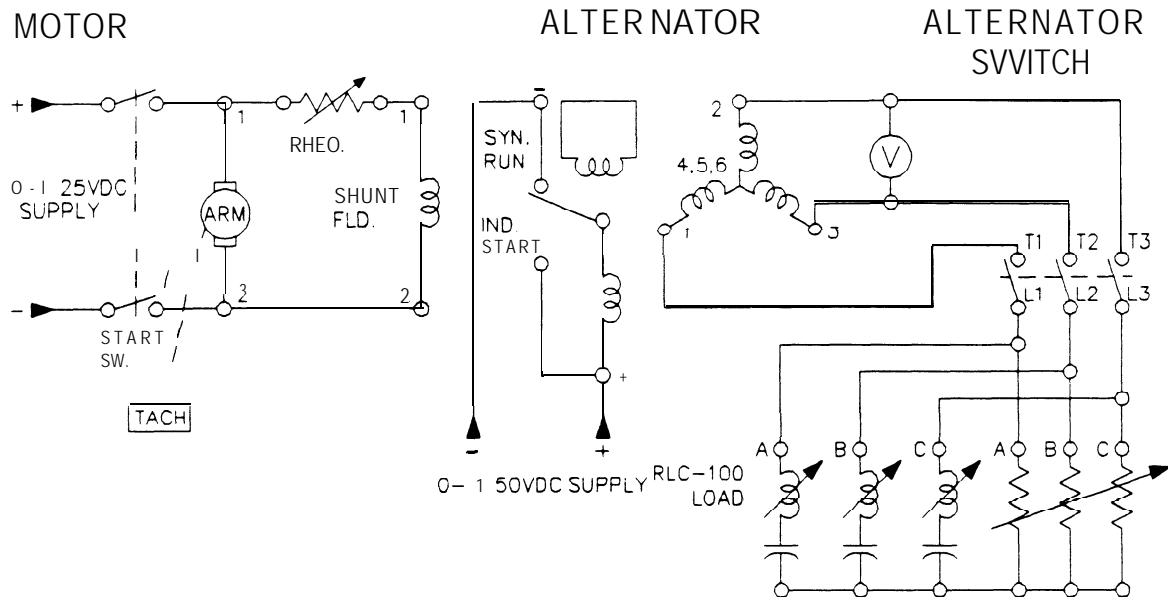

Figure 5-1
- step 2. Connect the DC machine as a self excited shunt motor as shown in Figure 5-1. Do not turn the power on yet.
- step 3. Connect the DC excitation (O-150 volt) supply to the alternator's field. Be sure the switch is in the SYNC RUN position. Connect the RLC-100 load to the alternator's terminals, as shown in Figure 5-1. Be sure that all of the resistance toggle switches are in the downward (OFF) position and that the three reactance load knobs are in the 0 (12 o'clock) position.